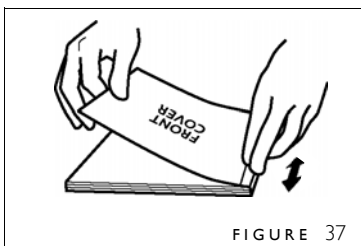

FIGURE 37
4. Fold your front cover tightly over the book block. Starting from the middle, rub back and forth to secure the cover to the adhesive strip beneath it. (figure 37).